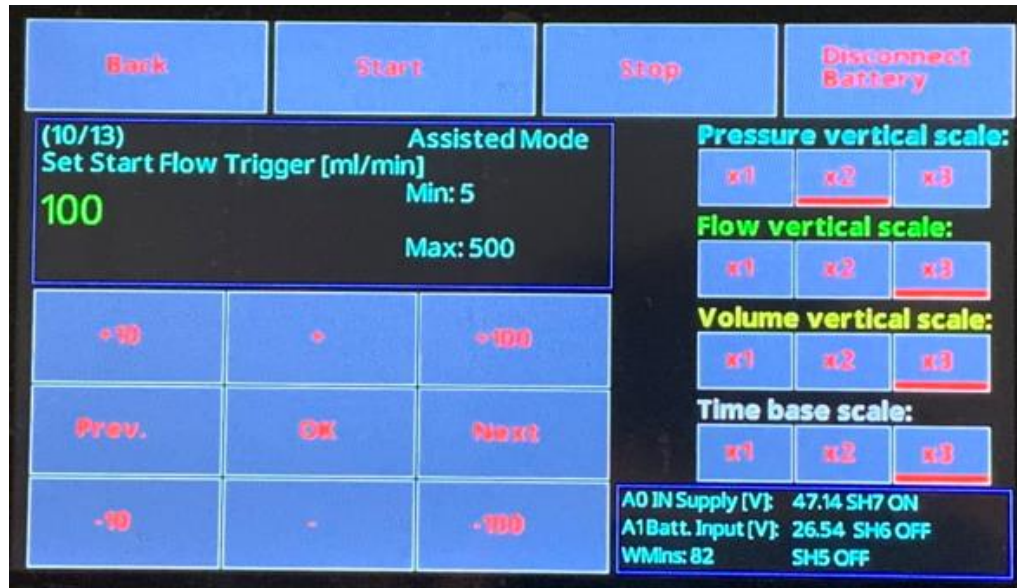

Figure 6.24. Setting the Start Flow Trigger
- 8- The third parameter that can be set is the ‘Start Flow Trigger’. It is expressed in ml/min (Figure 6.24) and represents the threshold of the inspiratory flow that ABU ventilator sets as the target value that once reached will signal to the ABU control unit that a spontaneous breathing act has been detected and it is the right time to trigger an assisted breathing act. It can span the range between 0 to 100 ml/min.